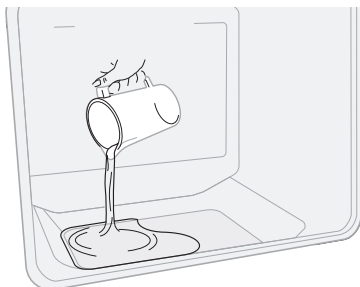

Fig. 56 Pour water onto the oven bottom
3. Pour 8 oz (235 ml) distilled or filtered water onto the oven bottom (Figure 56). Close the oven door.